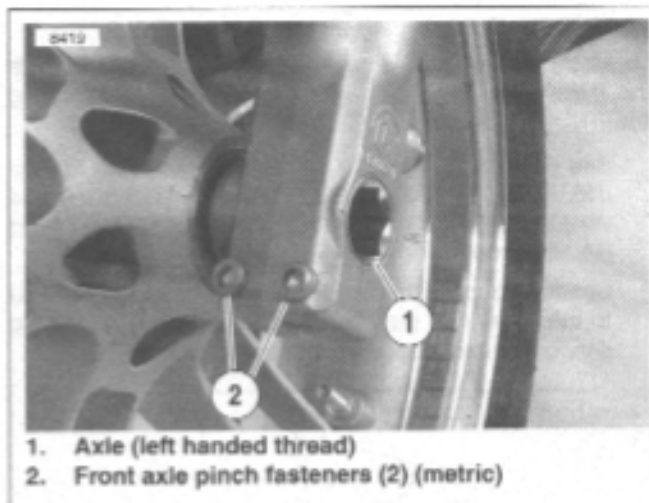

Figure 2-5. Front Wheel Mounting
3. See Figure 2-5. Loosen front axle pinch fasteners (2) (metric) on front fork.
4. Remove axle (1).